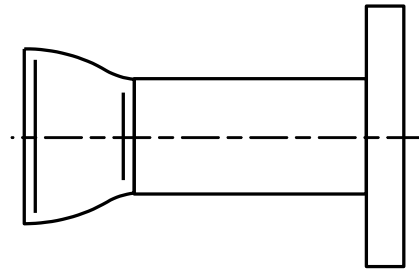

Fig.3
- b) If necessary, weld the adaptors to the opposite ends of the pipe runs (see Fig.3).